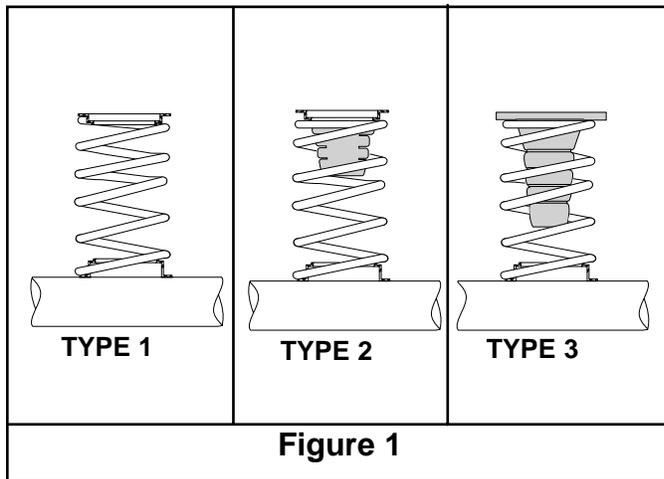
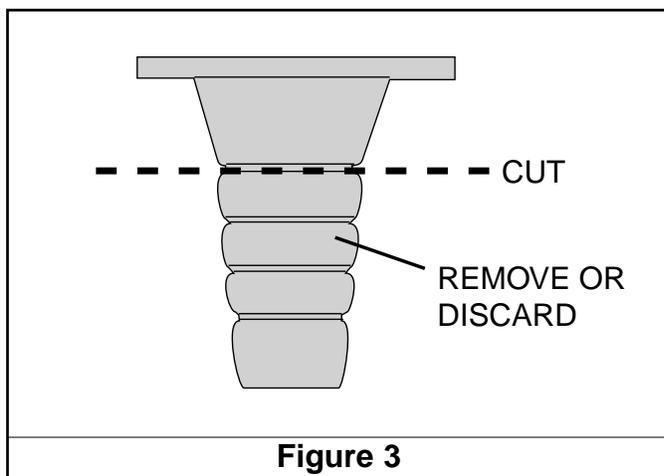
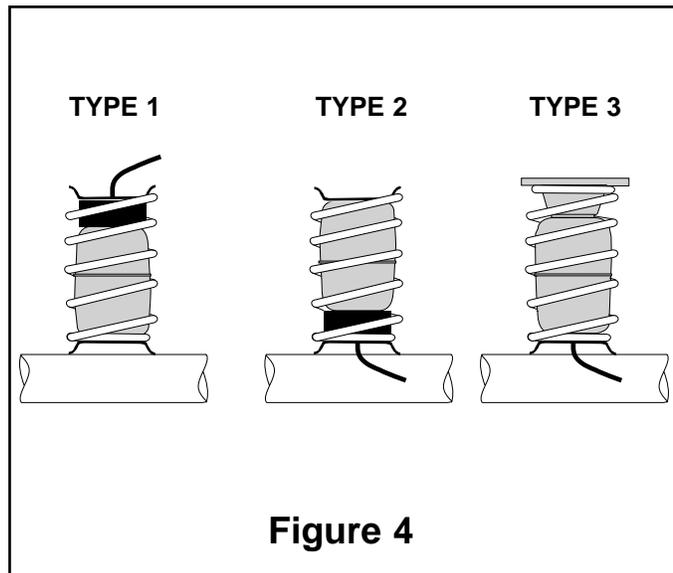

Figure 1
Figure 3
Figure 4
Type 1: If there is no jounce bumper at top spring seat (see Figure 1), and there is a large hole, insert the protector and cylinder so stem is up. See Figure 4.
Type 2: If there is a small jounce bumper (approximately 3" long) at the top of the coil spring, unbolt and discard (see Figure 1). Drill a 9/16" hole in lower spring seat using center template circles. Insert cylinder and protector in coil spring with stem down. See Figure 4.
Type 3: If there is a large jounce bumper at the top of the coil spring (Figure 1) it will be necessary to trim the jounce bumper as specified in Figure 3. Center template, mark and drill a 9/16" hole in lower spring seat for hose access to cylinder. Insert cylinder stem down. See Figure 4.
- F. Insert air line through spring seat and protector (Figure 4).
- C. Insert the air line through the spring seat and protector (Figure 4).